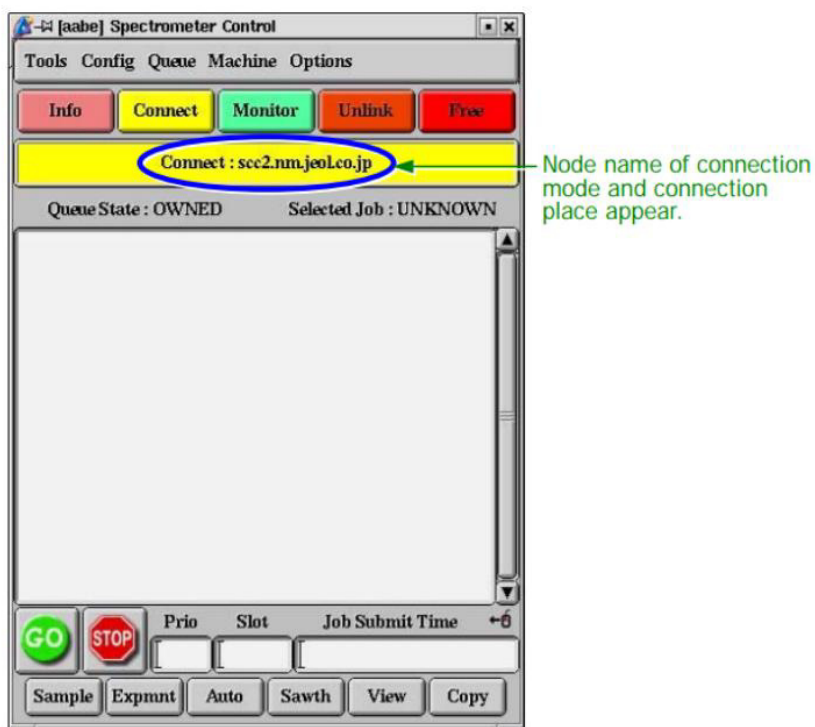

Fig. 3.0: Spectrometer Control Window
- c) Spectrometer control (Fig. 3.0 at page 4)